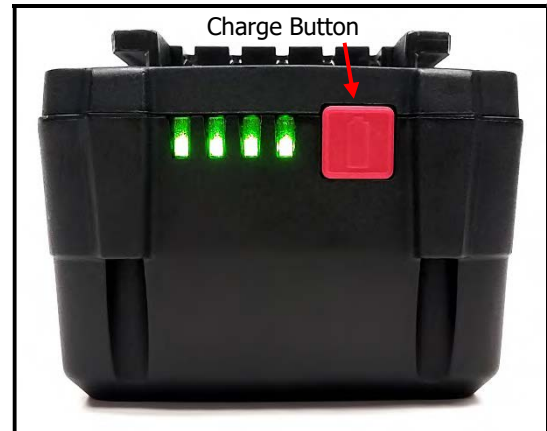

Figure 2.3.2-1: RAD Li-Ion Battery Pack
- Press the "Charge" button on the RAD Battery (Figure 2.3.2-1).